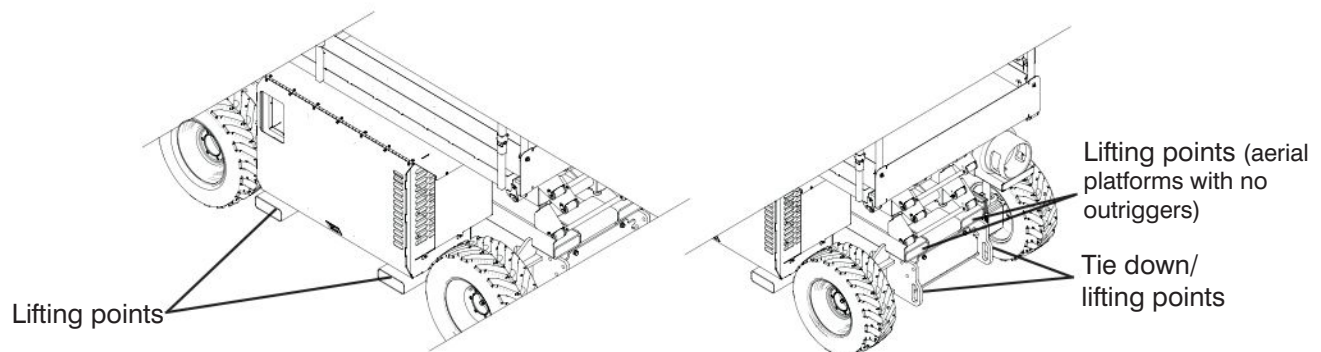

Figure 2-16. Tie Downs/Lifting Points
- The lifting/rigging may be attached to all twelve lifting points as illustrated in Figure 2-16.
When transporting, the aerial platform must be secured to the truck or trailer deck. Tie downs are available as illustrated in Figure 2-16.